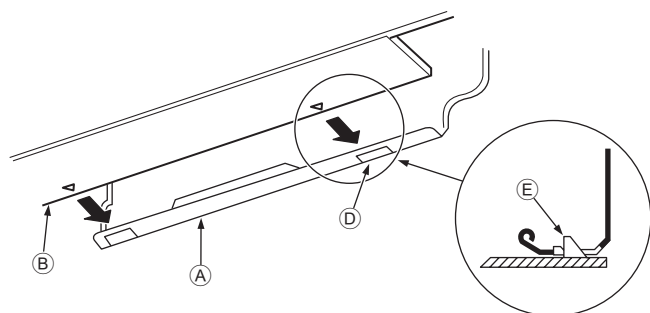

Fig. 3-16
3. While inserting the refrigerant piping and drain hose into the wall penetration hole (penetration sleeve), hang the top of the indoor unit to the mount board ①.
5. Fasten by pushing the bottom part of the indoor unit onto the mount board ①. (Fig. 3-16)